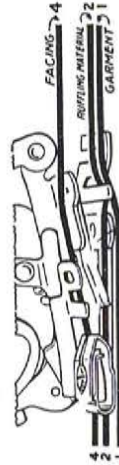

Fig. 68. Correct Position for Materials
1. Insert material to be ruffled between two blue blades and under separator guide (Line 2, Fig. 68).
2. Place material to which ruffle is to be attached under separator guide (Line 1, Fig. 68).
3. Place facing material over upper blue blade (Line 4, Fig. 68).